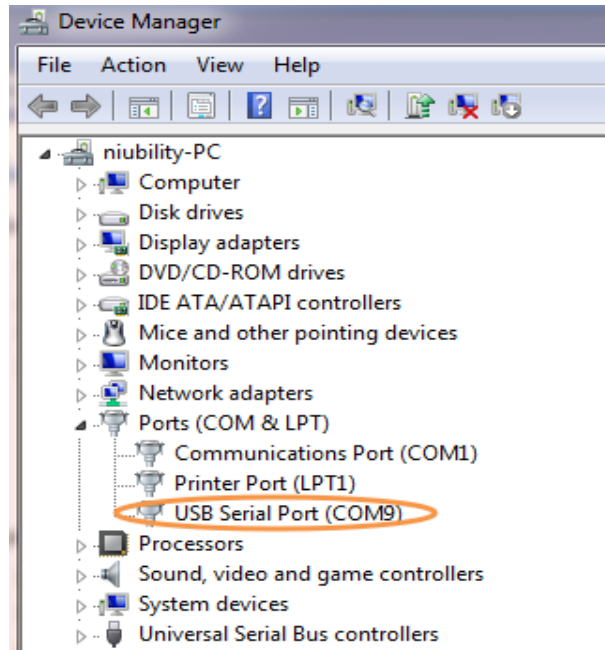

Figure 6-9 Check the assigned Com Port number On PC
- Open the Device Manager to ensure which common port is assigned to the UART to USB port as shown in **Figure 6-9**. The common number 9 (COM9) is assigned on this computer.